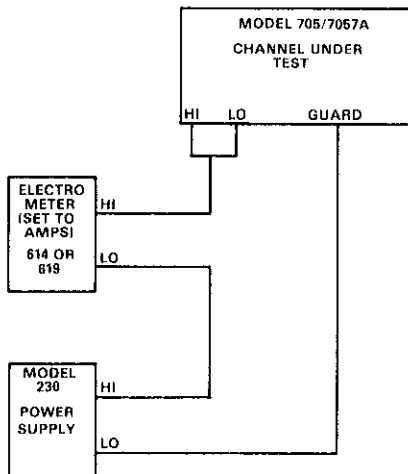

Figure 8. Common Mode Isolation Test Setup
- A. This test measures the leakage resistance between signal lines and power line ground. Set up the test circuit shown in Figure 8.